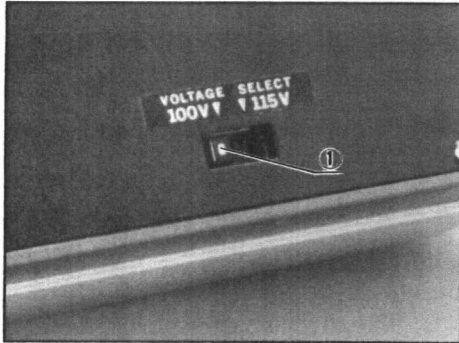

Fig. 5
The line voltage selector switch ① should be set to match the local line voltage. Fig. 5 shows the switch set at 100V.